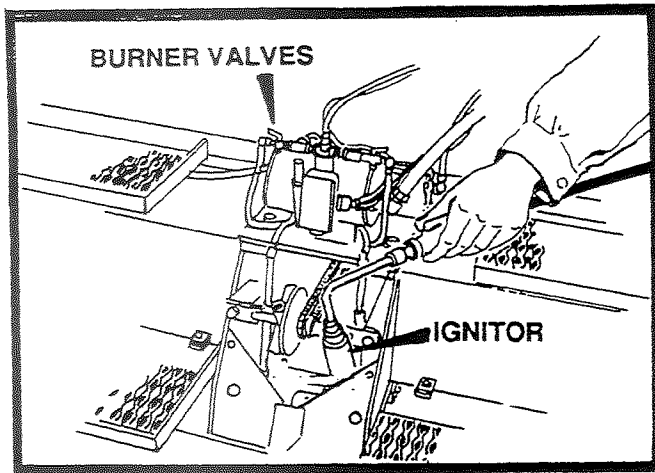

FIGURE 11
1. Turn main burner valves off. See figure 11.
1. Turn off all burner valves. See Figure 11.
4. Hold ignitor burner at end of main burner. To light main burner turn burner valve on. See figure 11. (NEVER TURN BURNER VALVE ON UNLESS FLAME IS PRESENT.)